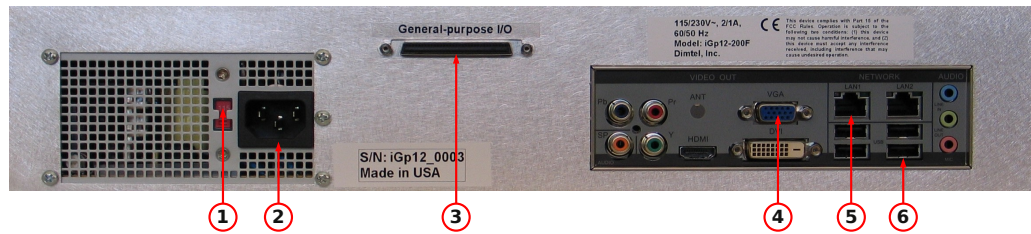

Figure 3: Rear panel features
**WARNING: Before connecting power to the unit make sure the voltage selection switch (Fig. 3, item 1) is in the correct position (115 or 230 V).**
1. Configure voltage selection switch (Fig. 3, item 1). Mains supply requirements for the iGp12-200F are listed in Table 10;
7. Connect a USB keyboard (Fig. 3, item 4);
8. Connect a video monitor (Fig. 3, item 5);
Setup program is included in the IOC for configuring the important features of the iGp12-200F. The program can be executed locally or remotely. For local execution one must first connect a keyboard (Fig. 3, item 4) and a video monitor (Fig. 3, item 5) to the system. For remote setup, use `ssh` after system bootup to establish connection. In both setup methods the user must login as `root` (initial password is supplied with the system). If the newly received iGp12-200F must be configured remotely (when, for example, a keyboard or a monitor is not available), such configuration can be performed using a dedicated network. Set up a network consisting of the iGp12-200F, a network hub or a switch, and a remote computer. The iGp12-200F is delivered with the following network configuration:
- Make sure no cable is connected to the general-purpose digital I/O port (Fig. 3, item 3);